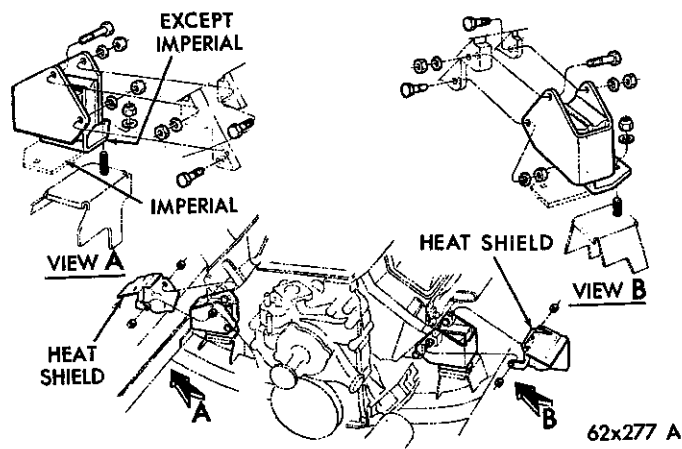

Fig. 50—Front Engine Mounts
(1) Install the mounts on the engine and tighten the nuts to 45 foot-pounds torque, as shown in Figure 50.
(2) Slide the heat shields over the engine mount bolts and install the second nuts. Tighten the nuts to 45 foot-pounds torque.
(3) Lower the engine and install the washers and pre-torque nuts on the frame bracket studs. Tighten the nuts to 75 foot-pounds torque.
(4) Connect the throttle to transmission and carburetor linkage.